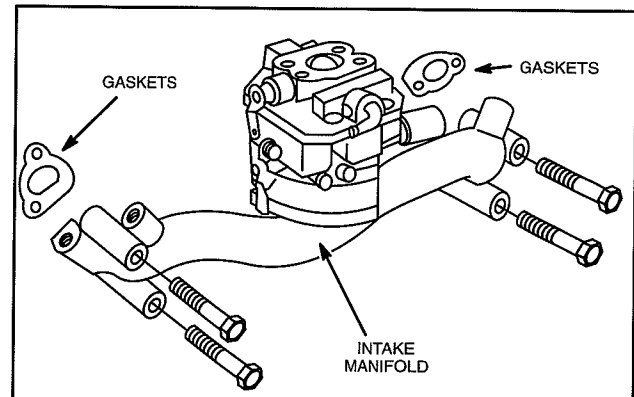

Fig. 118 – Install Intake Manifold
2. Install carburetor and manifold assembly to cylinder heads, Fig. 118.